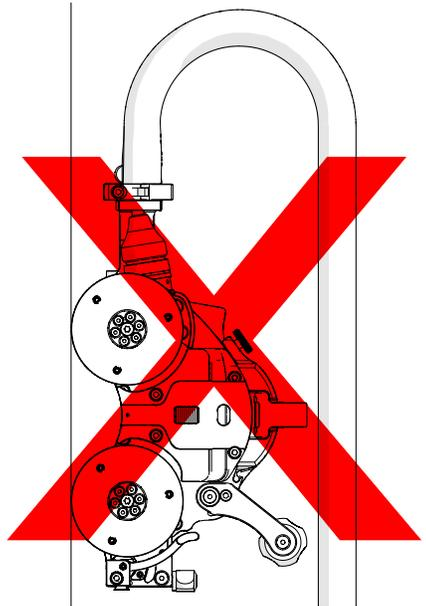

Fig. 92 - Incorrect umbilical use
WARNING! FALLING OBJECT HAZARD. or operating at heights greater than 2 m (6 ft), ensure the umbilical strain relief never points upwards as shown in (Fig. 92). The crawler could fall. **SEVERE INJURY** or **DEATH** could result.
3. Ensure the umbilical strain relief never points downwards during operation (Fig. 92).